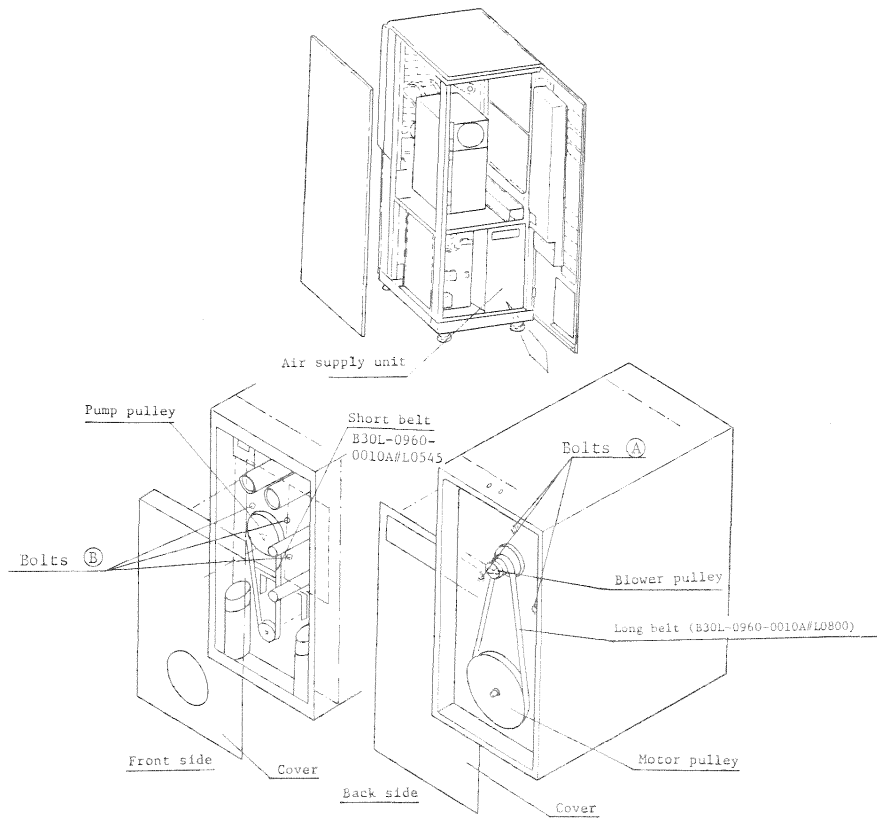

Fig. 2
3. Loosen the fitting bolts **Ⓐ** (for the blower) and fitting bolts **Ⓑ** (for the pump) and remove the bolts respectively. (See Fig. 2. ... Next page)